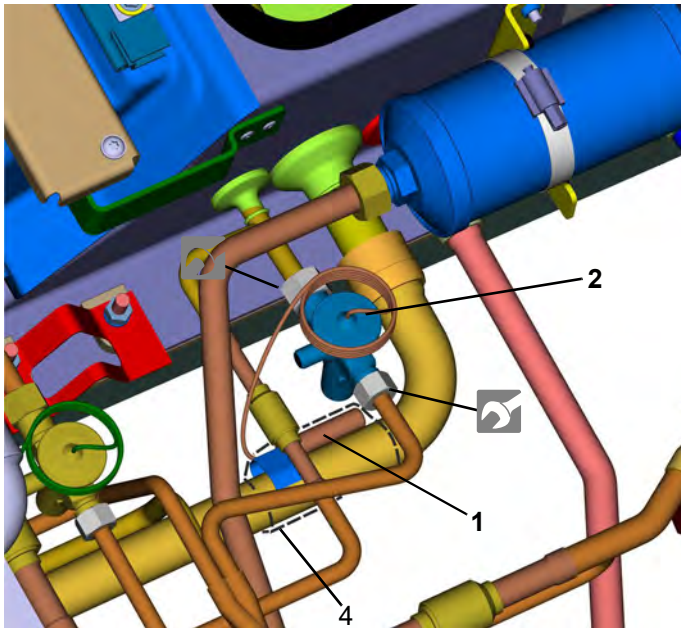

Fig. 903
- Place the expansion valve (2) into the location of installation and attach with cap nuts.
- Attach thermostat sensor (1) with holding clamp (3, Fig. 903) and wrap with tar binding (4).